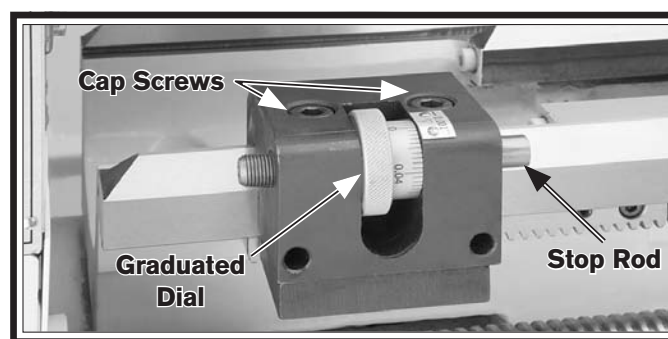

Figure 63. Micrometer stop.
2. Loosen the cap screws shown in **Figure 63**, then use the carriage handwheel to position the carriage and cutting tool at the desired stopping point.